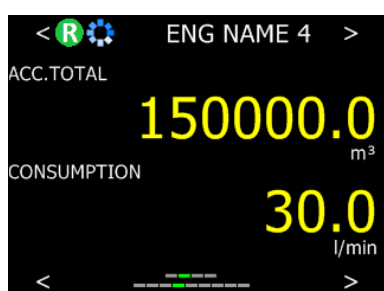

Figure 44: Remote screen
Figure 44 shows two (2) bars at the bottom of the screen.
- The top-indicators show four (4) FCM 2 devices are connected remotely within de FCMBus.